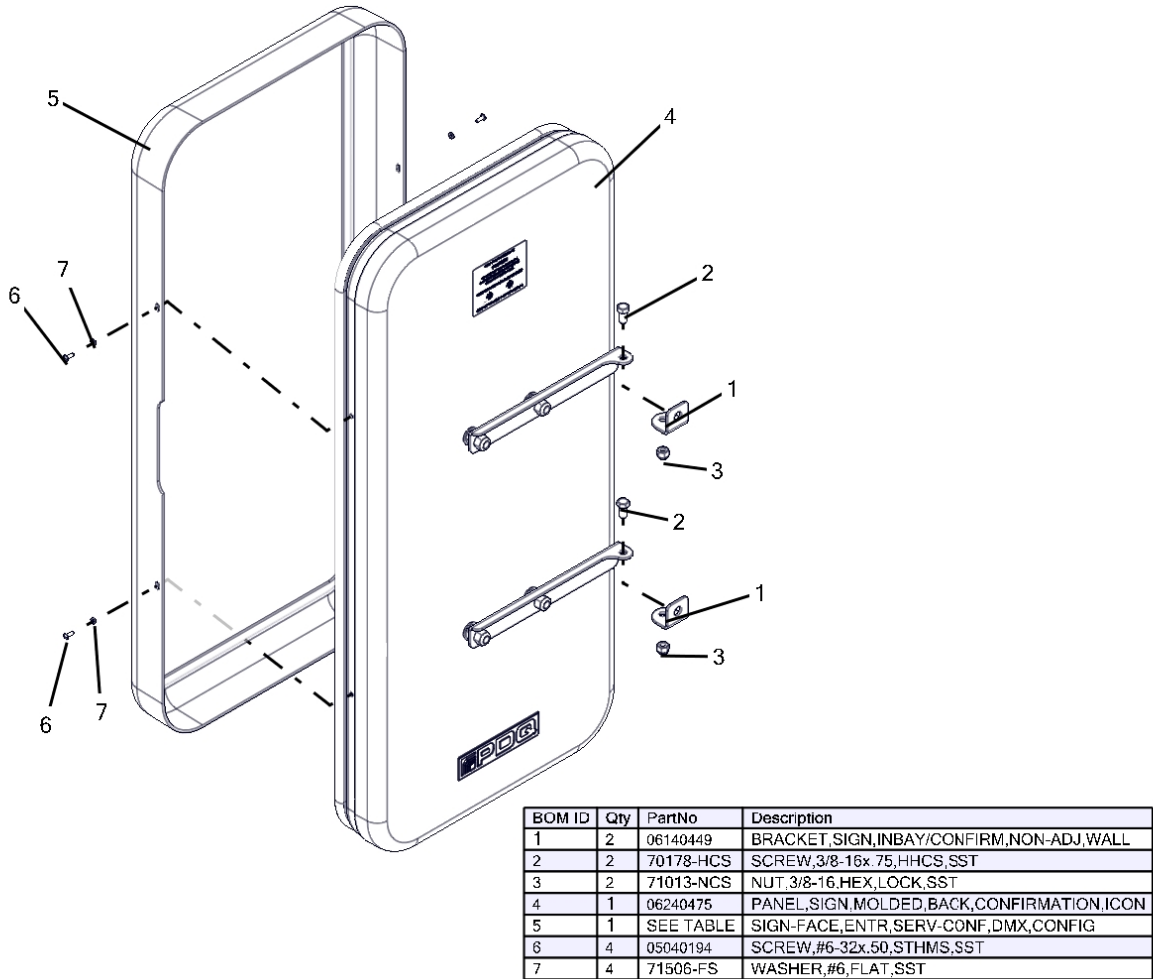

Figure 174 – Service Confirmation Sign
- The sign is built with the wall mount brackets oriented for mounting to the left wall of the wash bay. If it is necessary to mount it to the right wall, the brackets may be disassembled and flipped so that the mounting holes point in the proper direction for mounting to the right wall. When reassembling the brackets, always be sure the long brackets attached to the sign back are assembled on top of the smaller wall brackets, Figure 174.